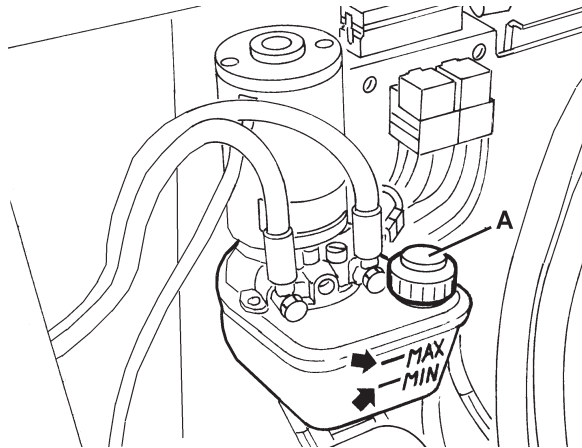

Figure 25
*This procedure must be performed with the hopper (4) fully retracted (as shown in the figure).*
1. Engage the parking brake with the pedal (75) and the lever (68).
2. Turn the ignition key (67) to "0".
3. Open the hood (22) and fasten it with the support rod (36).
4. Check that the oil level in the tank (35) is between the minimum (MIN) and maximum (MAX) marks shown in Fig. 25.
5. If necessary, add oil through the plug (A, Fig. 25), using the oil specified in Technical Data paragraph.
6. Remove the support rod (36) and close the hood (22).